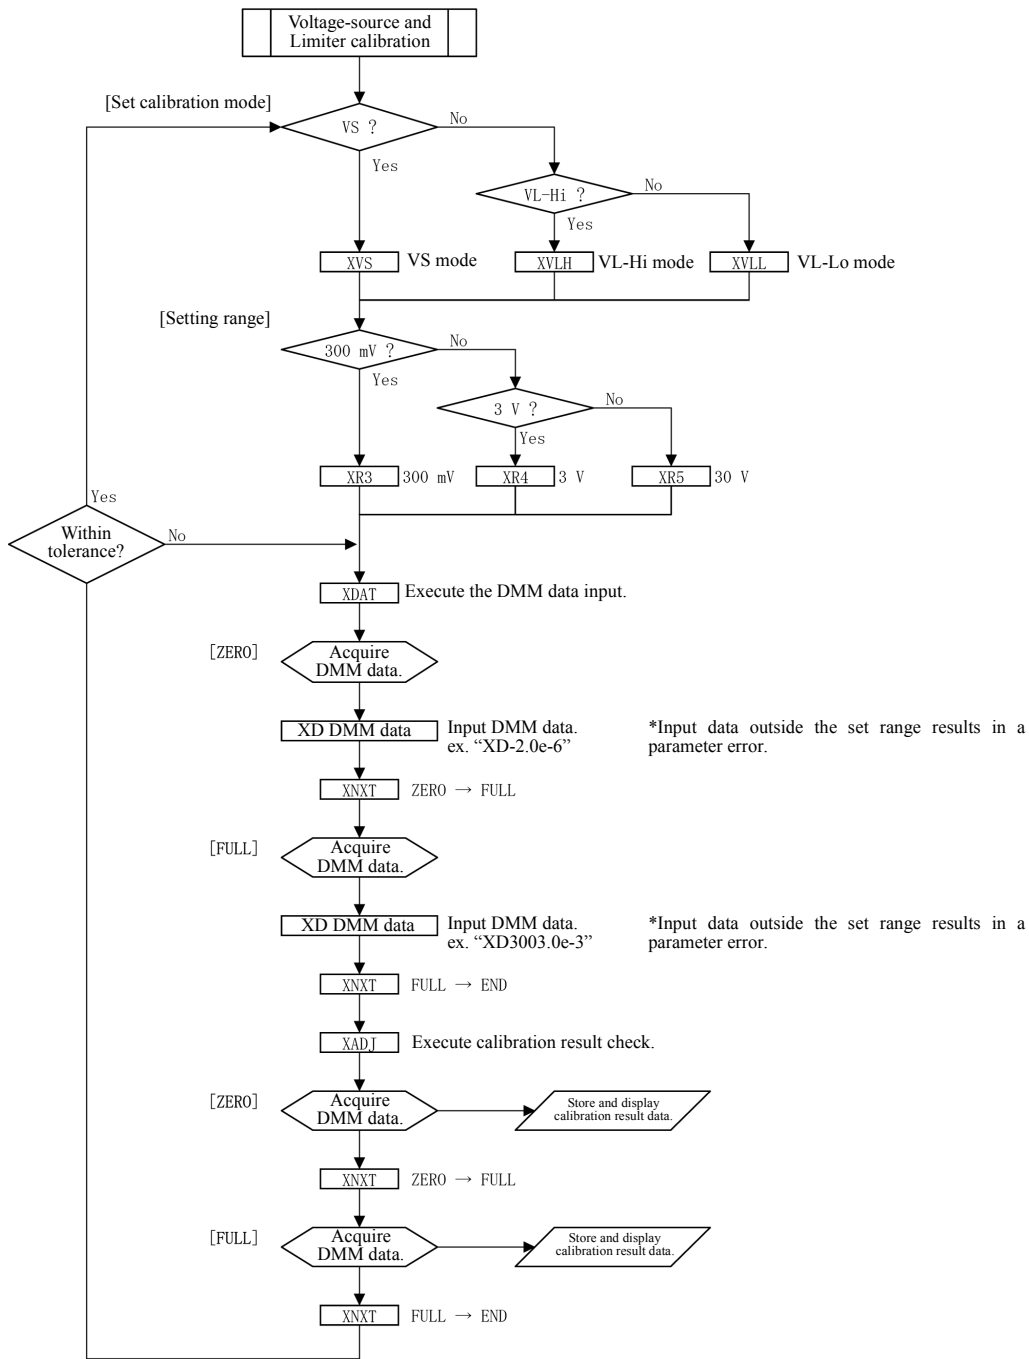
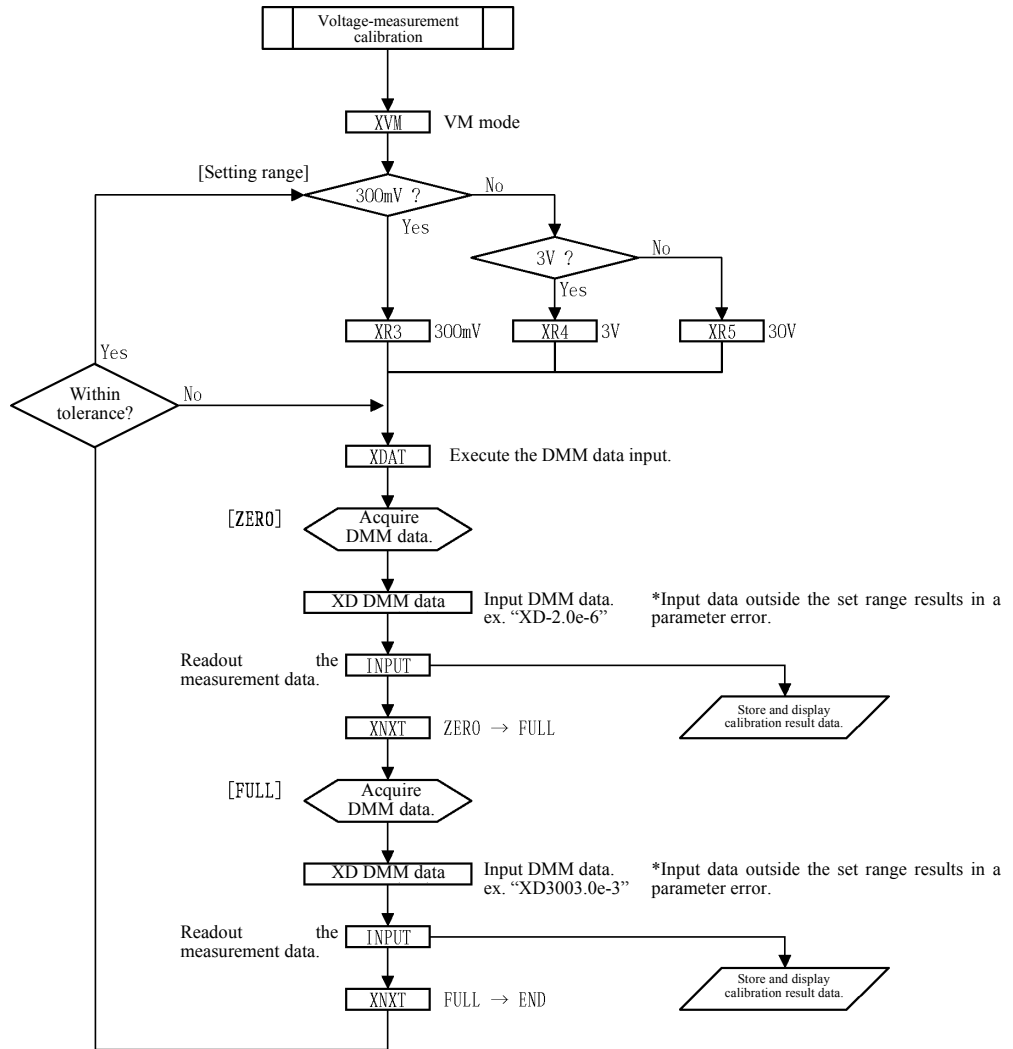

Figure 8-3 6241A Calibration Procedure (2)
Figure 8-4 6241A Calibration Procedure (3)
5. Conduct calibration according to Figure 8-3, “6241A Calibration Procedure (2)” or Figure 8-4, “6241A Calibration Procedure (3).”